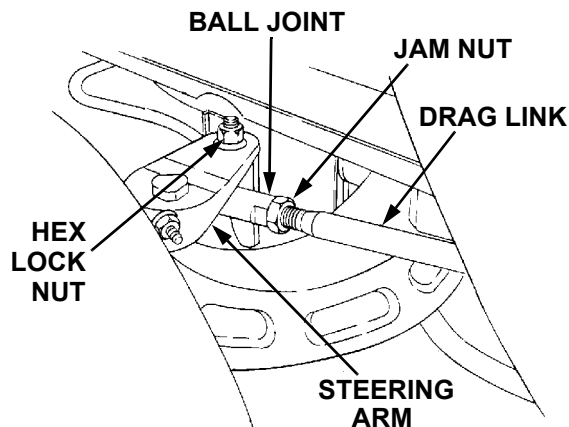

Figure 14
5. Loosen the jam nuts from the ball joints (See Figure 14).
6. Disconnect the front ball joints from the steering arms by removing the hex lock nuts (Refer to Figure 14). Manually move each wheel to achieve the required toe-in *and* equal D measurements.